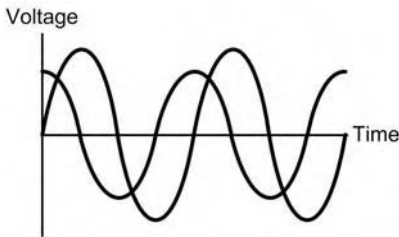

Figure 5.218
88. Figure 5.218 shows two AC waveforms. The phase angle between these waveforms is: [B1, B2]